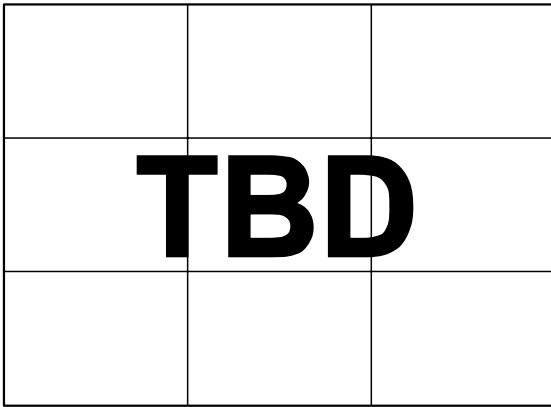

Figure 12. THD vs. Frequency
- For ac applications, the driver needs to have a THD performance suitable to that of the AD7688. Figure 12 gives the THD versus frequency that the driver should exceed.